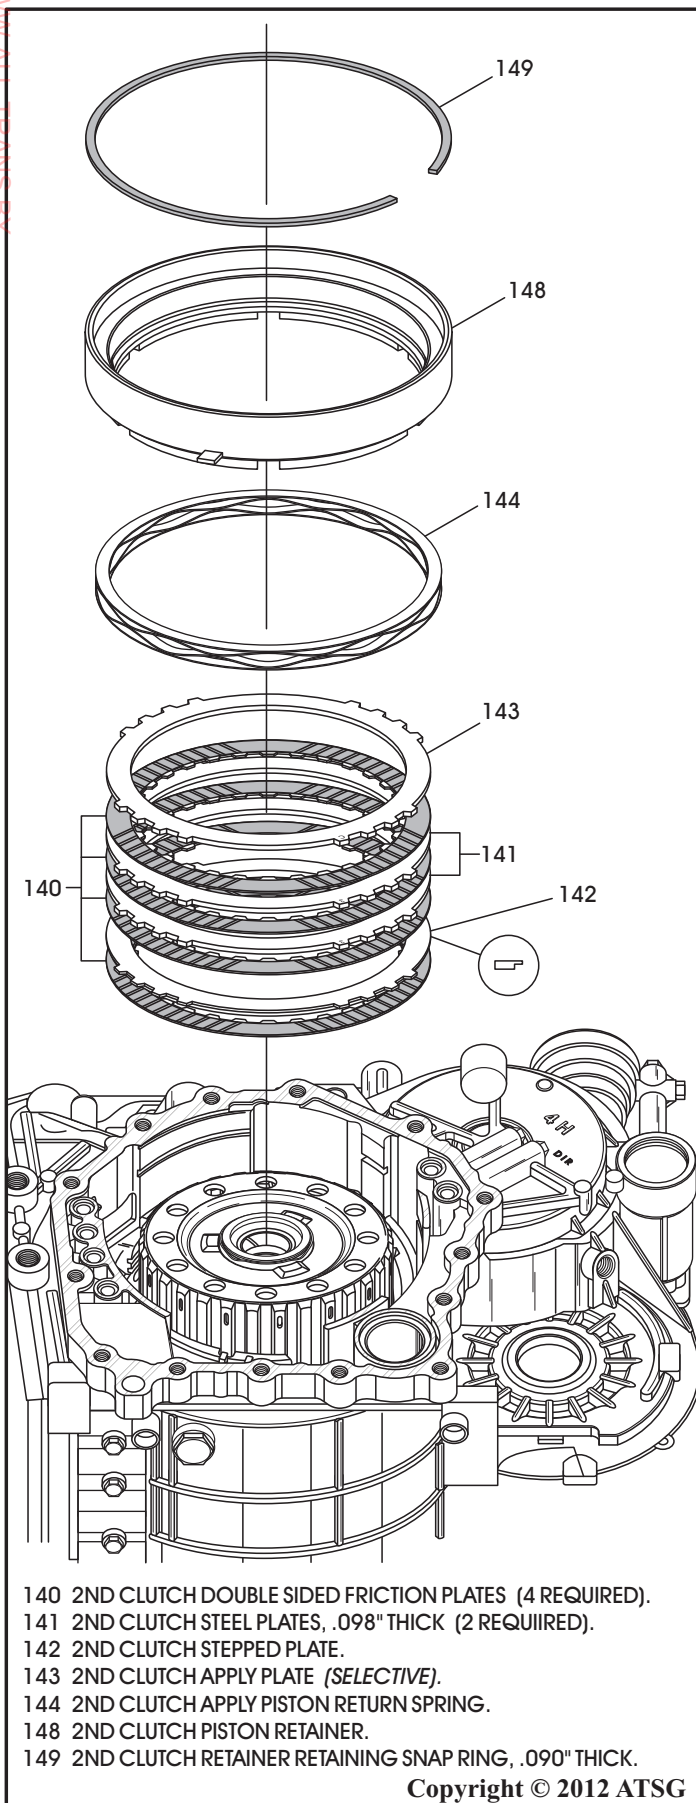

Figure 258
34. Install one second clutch friction on top of the pre-installed pressure plate (See Figure 258).
35. Install the stepped steel plate with step facing the friction, as shown in Figure 258.
36. Install second clutch friction plates alternating with steel plates (3 friction, 2 steel), as shown in Figure 258.
37. Install the selective second clutch apply plate that was selected in step 28 on Page 133, as shown in Figure 258.
38. Install the second clutch piston return spring, as shown in Figure 258.
39. Install the completed second clutch retainer, as shown in Figure 258.
40. Compress the retainer against the return spring and install the retaining snap ring, as shown in Figure 258.